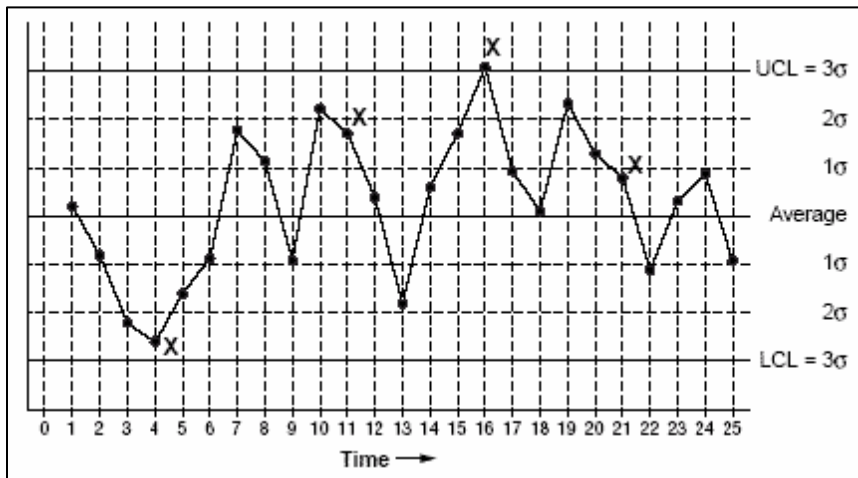

Figure 1 Control Chart: Out-of-Control Signals
- A single point outside the control limits. In Figure 1, point sixteen is above the UCL (upper control limit).
- Two out of three successive points are on the same side of the centerline and farther than 2σ from it. In Figure 1, point 4 sends that signal.
- Four out of five successive points are on the same side of the centerline and farther than 1σ from it. In Figure 1, point 11 sends that signal.
- A run of eight in a row are on the same side of the centerline. Or 10 out of 11, 12 out of 14 or 16 out of 20. In Figure 1, point 21 is eighth in a row above the centerline.